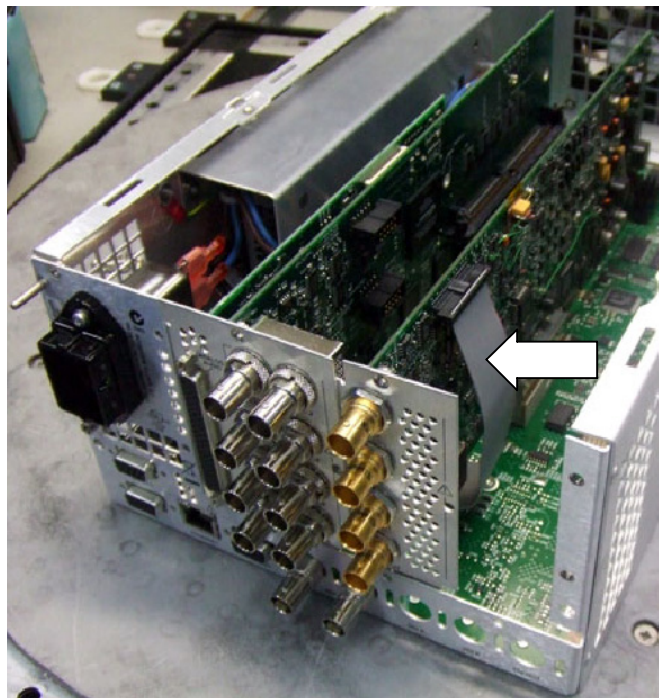

Figure 8: Installing the Option EYE and PHY cable
4. Install one end of the ribbon cable supplied in this kit onto J16 on the Main Interface board. The cable connector is keyed and can only be installed one way. Dress the cable towards the right side of the instrument as viewed from the rear. See Figure 8.